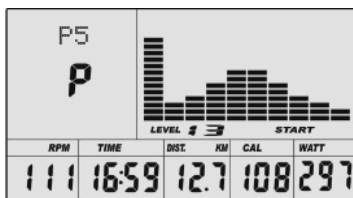

Fig 29
- F. Press START/STOP to begin exercise. (See Fig 29)